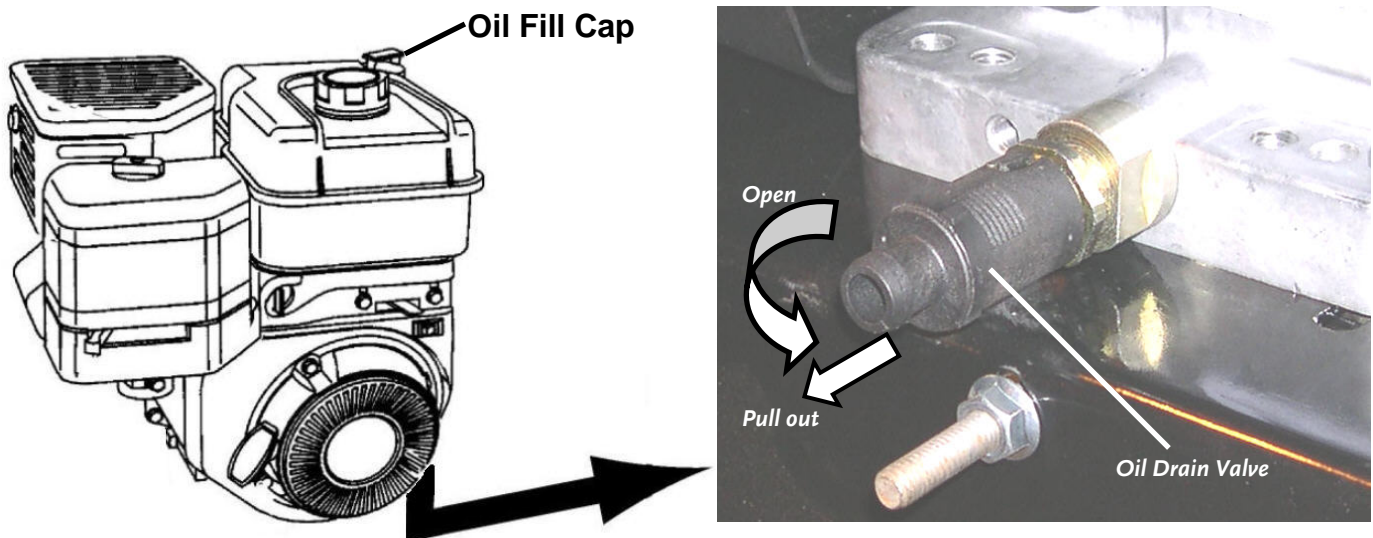

Figure 7
NOTE 1: The engine is equipped with a Drain Valve for ease in changing the oil (**Figure 7**).
1. Position a suitable oil receptacle under the engine oil Drain Valve (located at the Handle Bars side of the engine) and remove the engine oil Fill Cap (**Figure 7**).
2. Open the engine oil Drain Valve by twisting the valve end counterclockwise and then pull out (**Figure 7**). Allow the used oil to drain completely, and then close the Drain Valve (push in and turn clockwise).